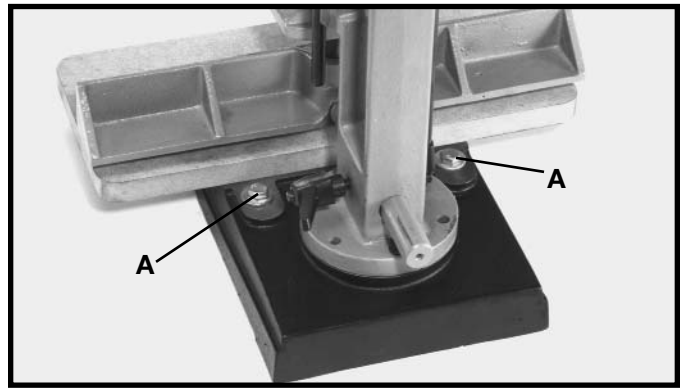

Fig. 16
If during operation there is any tendency for the mortiser to tip over, slide or walk on the supporting surface, the base must be secured to the supporting surface with fasteners (not supplied), through the two holes (A) Fig. 16, located in the mortiser base.